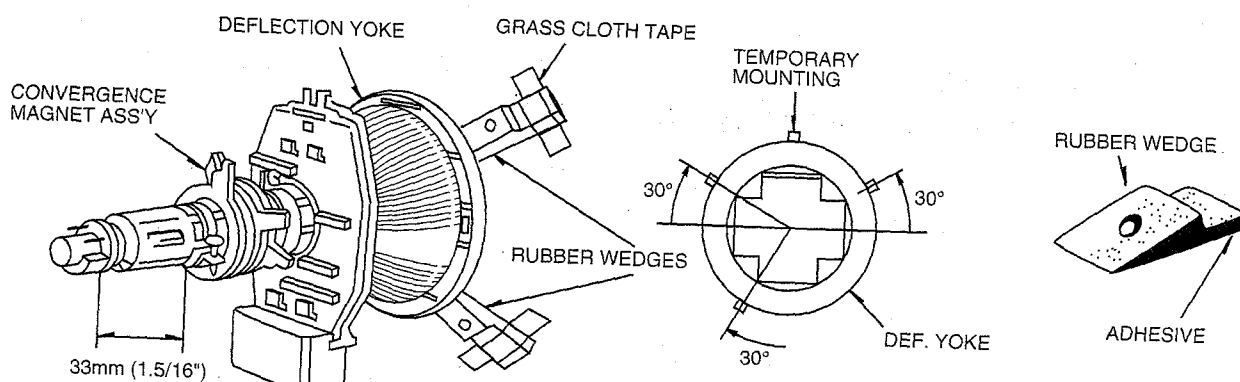

Fig. 15 RUBBER WEDGES LOCATION
Convergence Magnet Assembly and Rubber Wedges need mechanical positioning following Fig. 15
- (i) Stick 3 glass cloth tapes on wedges as shown in Figure 15.